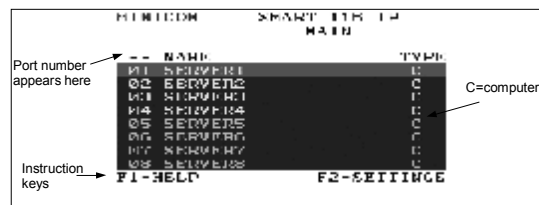

Figure 20 OSD Main window
- Press **Shift** twice. The OSD Main window appears. See Figure 20. Lines with yellow text show active computers. Lines with blue text show inactive computers. The Type column indicates a computer "C" is connected to the port.